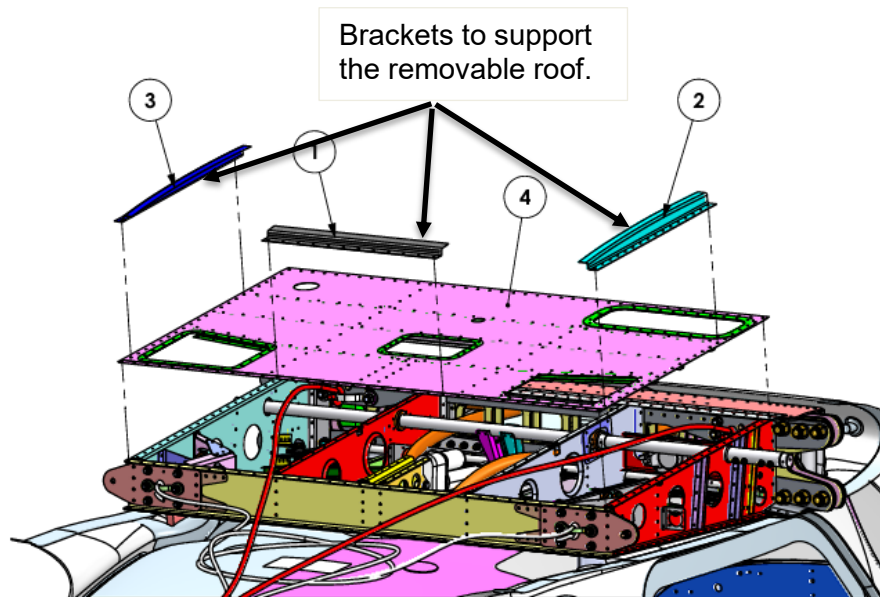

Figure 10: The brackets are shown according to their mounting positions.
3.1.4 Installation of the Roof shell top bracket centre, Roof shell top bracket right and Roof shell top bracket left to support the removable roof on the plane as shown in Figure 10.